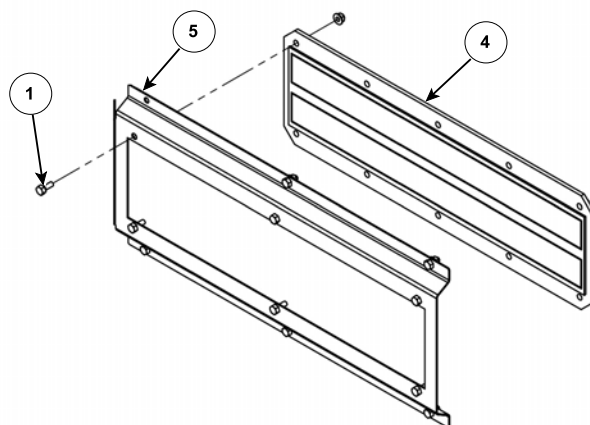

Figure 1: Attach the Magnet to Mounting Bracket
1. Attach the magnet (4) to the mounting bracket (5) with 6 of 5/16" x 3/4" hex bolts and flange locknuts (1), see *Figure 1*.
- Place the magnet (4) so that the surface of the magnet will be through the cut out of the bracket and flush with the bracket face.
- Place the heads of the hex bolts (1) on the surface of the mount bracket.